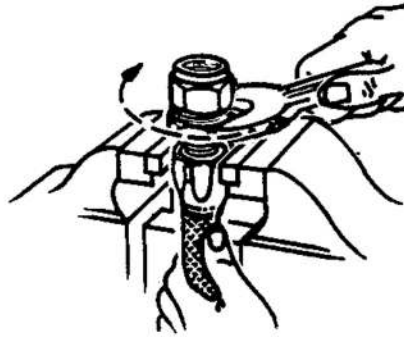

Fig 15 Tightening the nipple assembly
16.7 While continuing to hold the hose against push out, complete the assembly using a spanner on the driving hexagon of the nipple assembly (fig 15). The allowable gaps between the adjacent surfaces of the nipple and socket are: 0.13 to 1.0 mm (0.005 to 0.04 in) for sizes -3, -4 and -5; and 0.13 to 0.8 mm (0.005 to 0.031 in) for sizes -6 upwards.